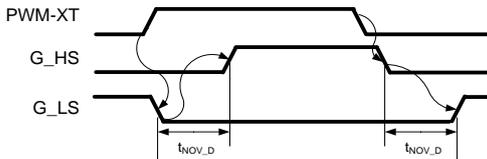

Figure 21: Local Mode operation
- Local Mode: PWM-XB and PWM-XT are generated from one input signal (PWM-XT) and proper non overlapping timing is managed locally on each phase of CXT-PLA3SA12450A gate driver board (cfr Figure 21)